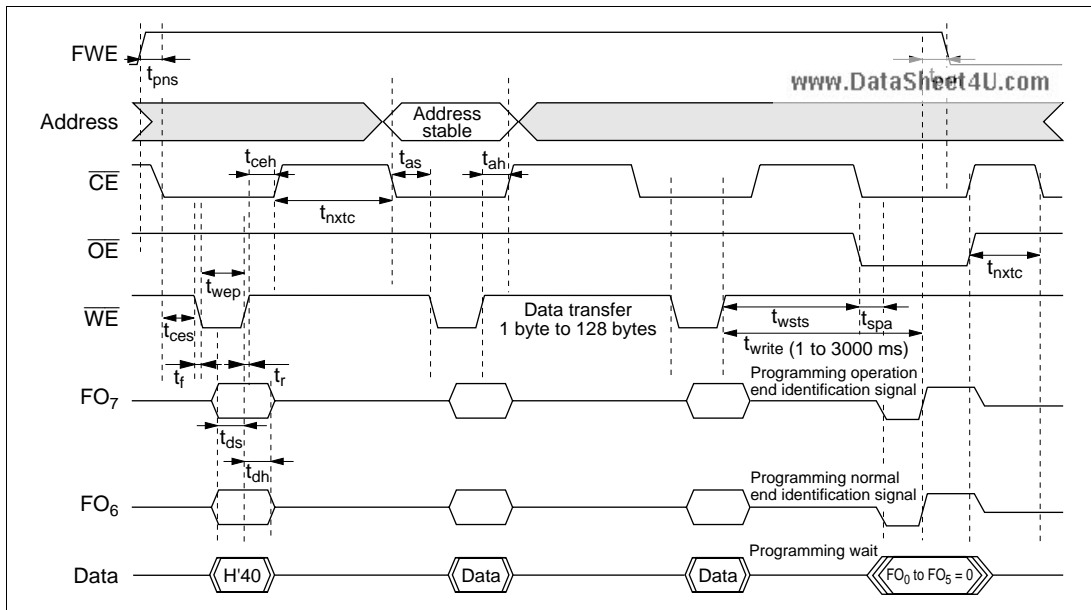

Figure 17.31 Auto-Program Mode Timing Waveforms
- Memory address transfer is performed in the second cycle (figure 17.31). Do not perform memory address transfer after the second cycle.